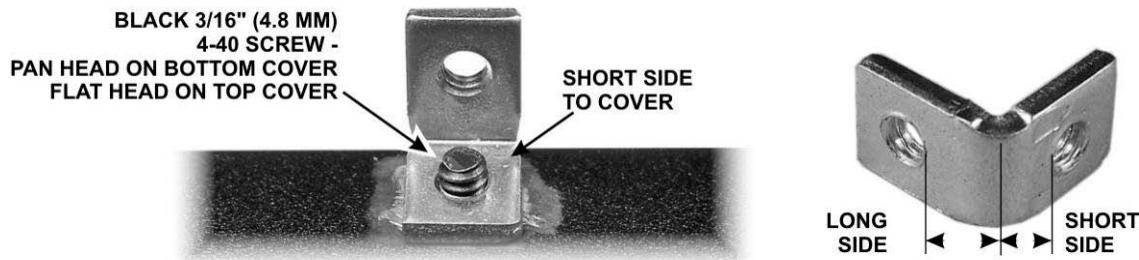

Figure 10. Installing Angle Brackets on the Covers.
- At the mid-point along each side of the bottom and top covers is a screw hole. Mount the four angle brackets in these holes as shown in Figure 10. Be sure all six holes of each cover have clean metal on the *inside* surface. ***Do not remove paint on the outside surface!*** Be sure to use pan head screws on the bottom cover brackets and flat head screws on the top cover brackets. The holes in the top cover are counter sunk for the flat head screws. Check to ensure the brackets are oriented as shown. If you install the bracket backwards the case parts will not fit correctly.
- Inspect the inside surface of the side covers to ensure there is bare metal around each screw hold for good contact with the angle brackets or 2D fasteners. Be sure that you clean away paint on the inside surface, not the outside (see Figure 10, page 59). The screw holes are **not** counter sunk on the inside surface of the panels. They are counter sunk on the outside surface.
- Mount the side panels, using five 3/16" (4.8 mm) flat head screws in each panel. The center top hole will be filled when you install the top cover later. Although the panels are identical, they only fit one way so the holes align with the fasteners. If a screw binds or does not line up properly, loosen the other screws holding the 2D fastener or the screw into the L-bracket so it can move slightly for better alignment. If a side panel seems pushed away from the bottom cover at the center, check the L-bracket carefully. The usual cause is an L-bracket installed incorrectly (see Figure 10).
- Mount the top cover. Orient it with the notch to the rear. (The notch is to make the cover easy to remove with a fingernail or small tool if needed.) Secure the cover with six 3/16" (4.8 mm) flat head screws; four on the top and one through each side panel. If the angle brackets on the top cover do not fit properly, check the orientation of the L-bracket carefully. The usual cause is an L-bracket installed incorrectly (see Figure 10).
The top, bottom and sides are supported at the center by L-brackets (Figure 10 on page 59).